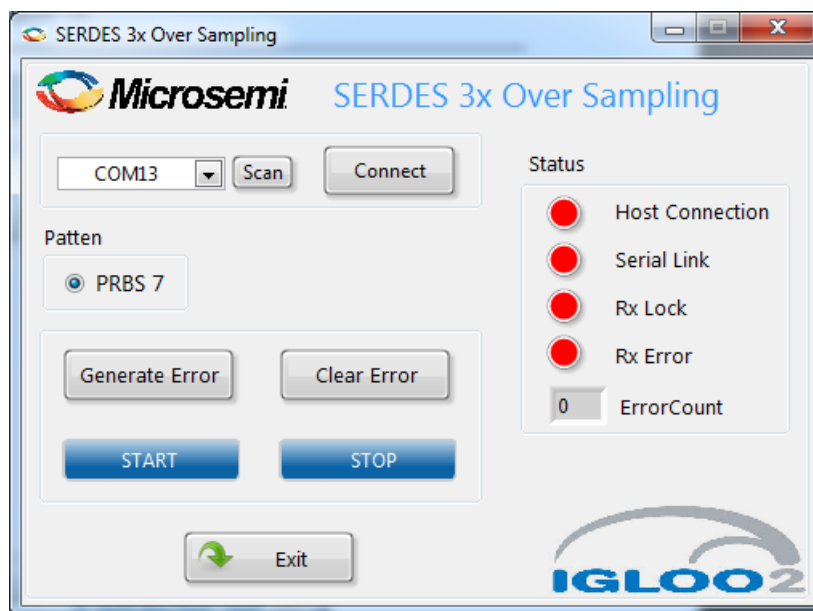

Figure 14 • Oversampling GUI Window
2. The GUI window is displayed as shown in Figure 14.